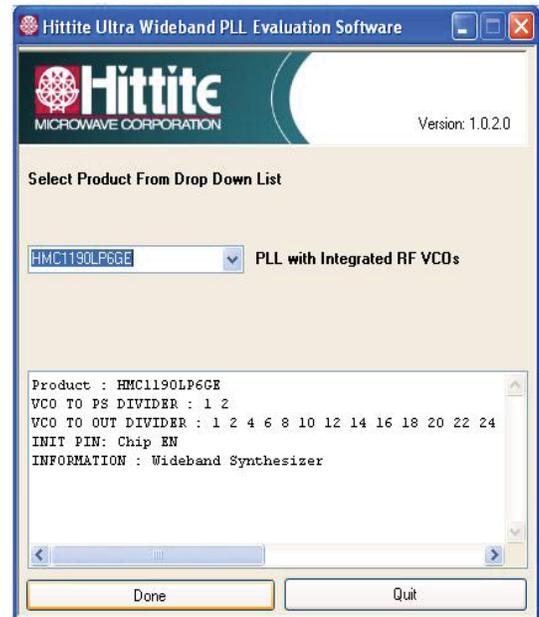

Figure 5. PLL Evaluation Software Introduction GUI
2. Choose **HMC1190LP6GE** from the GUI dropdown menu shown in Figure 5 and click **Done**.